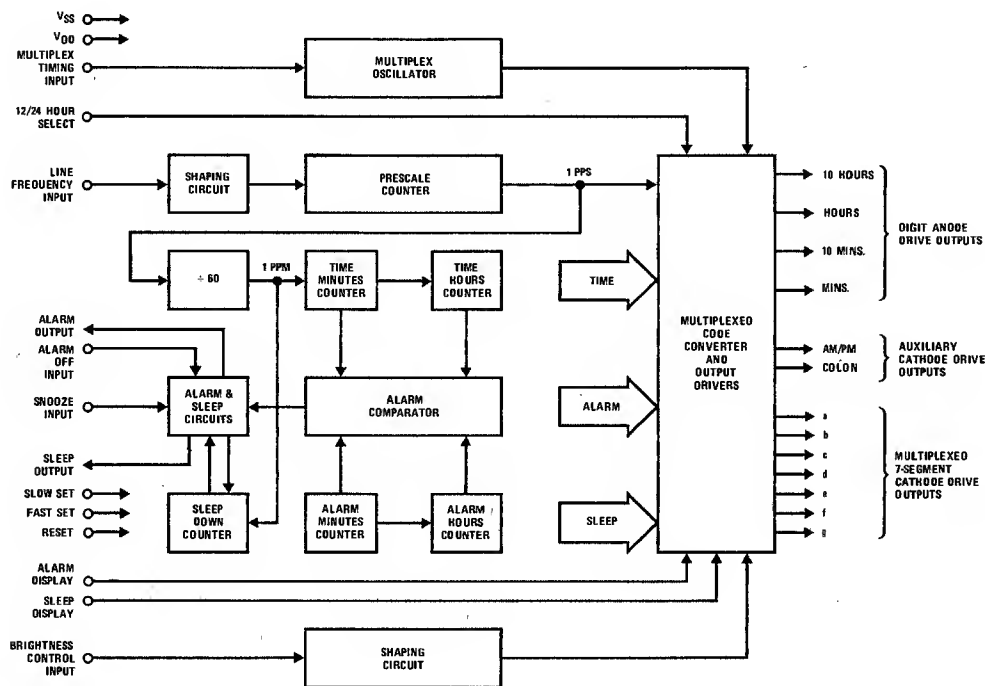

FIGURE 1. MM5370 and MM5371 Digital Alarm Clock, Block Diagram
A block diagram of the MM5370 and MM5371 clocks is shown in *Figure 1*. The various display modes provided by these clocks are listed in Table I. The functions of the controls are listed in Table II. A connection diagram for these devices is shown on page 1. Unless indicated otherwise, the following discussions are based on *Figure 1*.
**Display Mode Select Inputs (pins 7 and 8):** In the absence of either of these inputs, the display drivers output time-of-day information to the display. Internal pull-down (to  $V_{DD}$ ) depletion loads allow use of simple SPST switches for connecting these inputs to  $V_{SS}$ , thereby selecting alternate display modes. If more than one mode is simultaneously selected, the priorities are noted in Table I. As shown in *Figure 1* the multiplexed code converter receives time, alarm and sleep information from appropriate points in the clock circuitry. The display mode select inputs control the gating of the desired data to the multiplexed code converter inputs and ultimately (via output drivers) to the display.
**Alarm Operation and Output (pin 2):** An alarm comparator (see *Figure 1*) senses coincidence between the alarm counters (the alarm setting) and the time counters (real time). The comparator output is used to set a latch in the alarm and sleep circuits. This latch enables the alarm output driver (see *Figure 7*), the output of which is used to control the external alarm sound generator. The alarm latch remains set for 59 minutes, during which the alarm will sound if the latch output is not